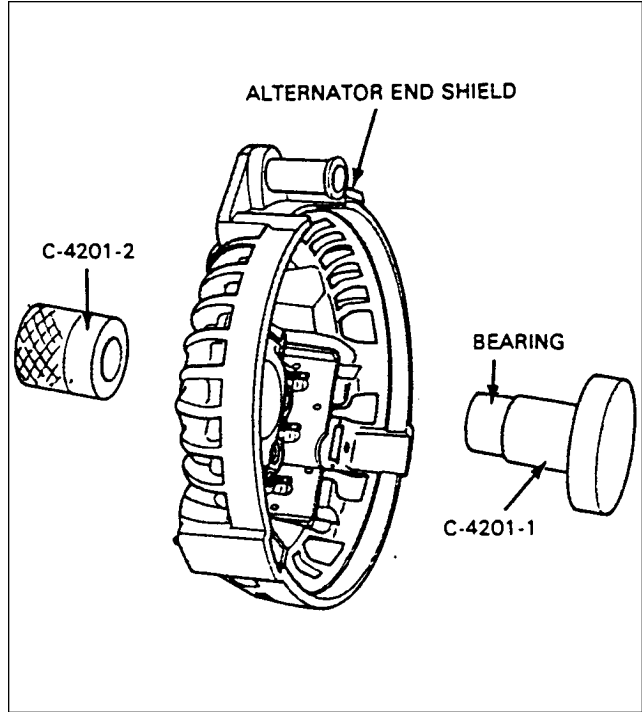

Figure 24-19. Installation of Rectifier End Shield Bearing
2. Position rectifier end shield bearing on the base of tool C-4201. Place alternator end shield on top of bearing so that it is properly aligned. With top part of tool C-4201 placed on end shield, press into place until it bottoms against it. (Refer to figure 24-19.)